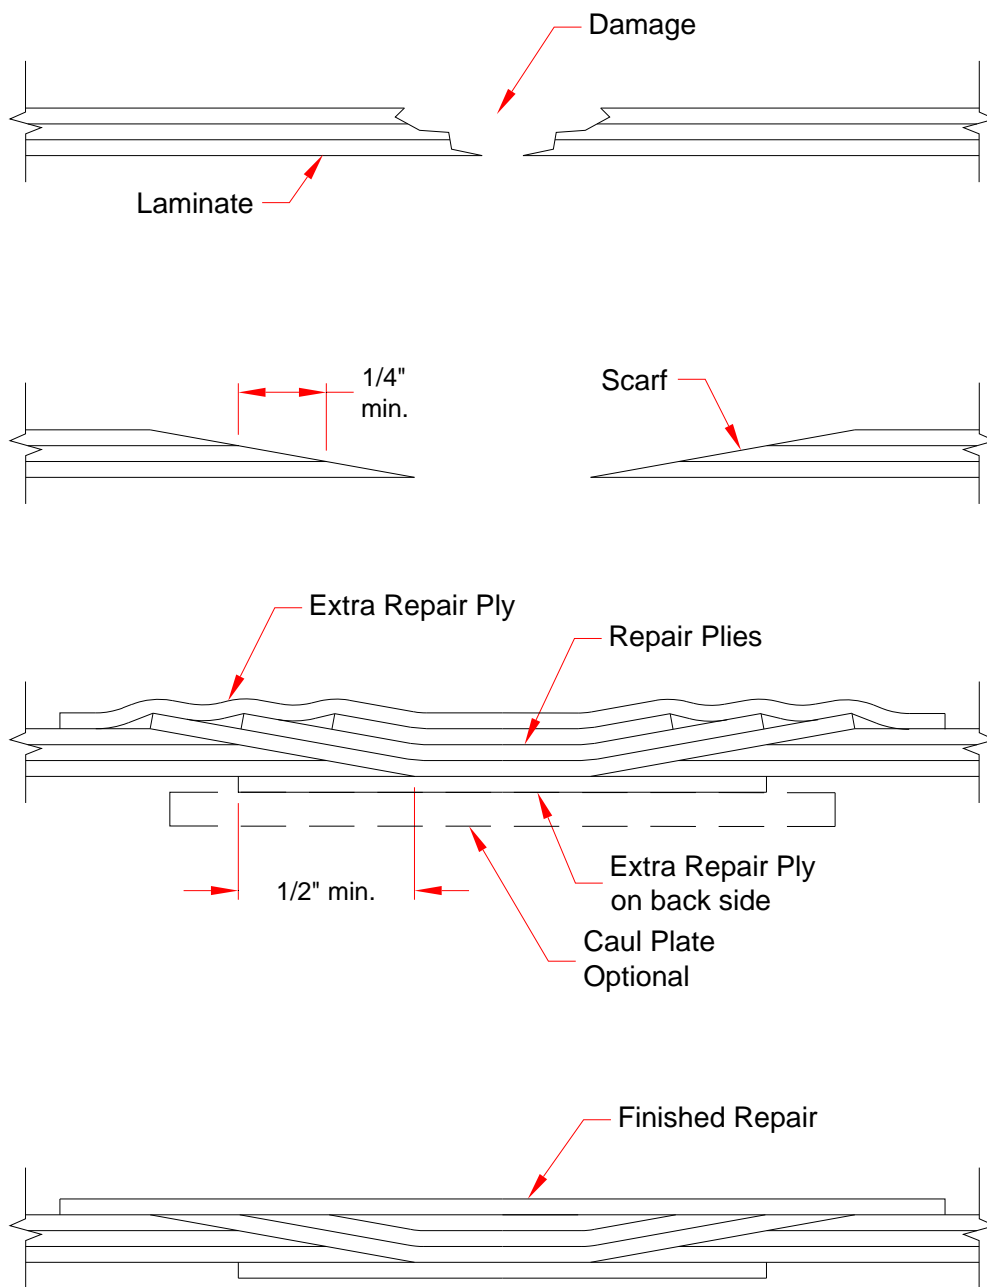
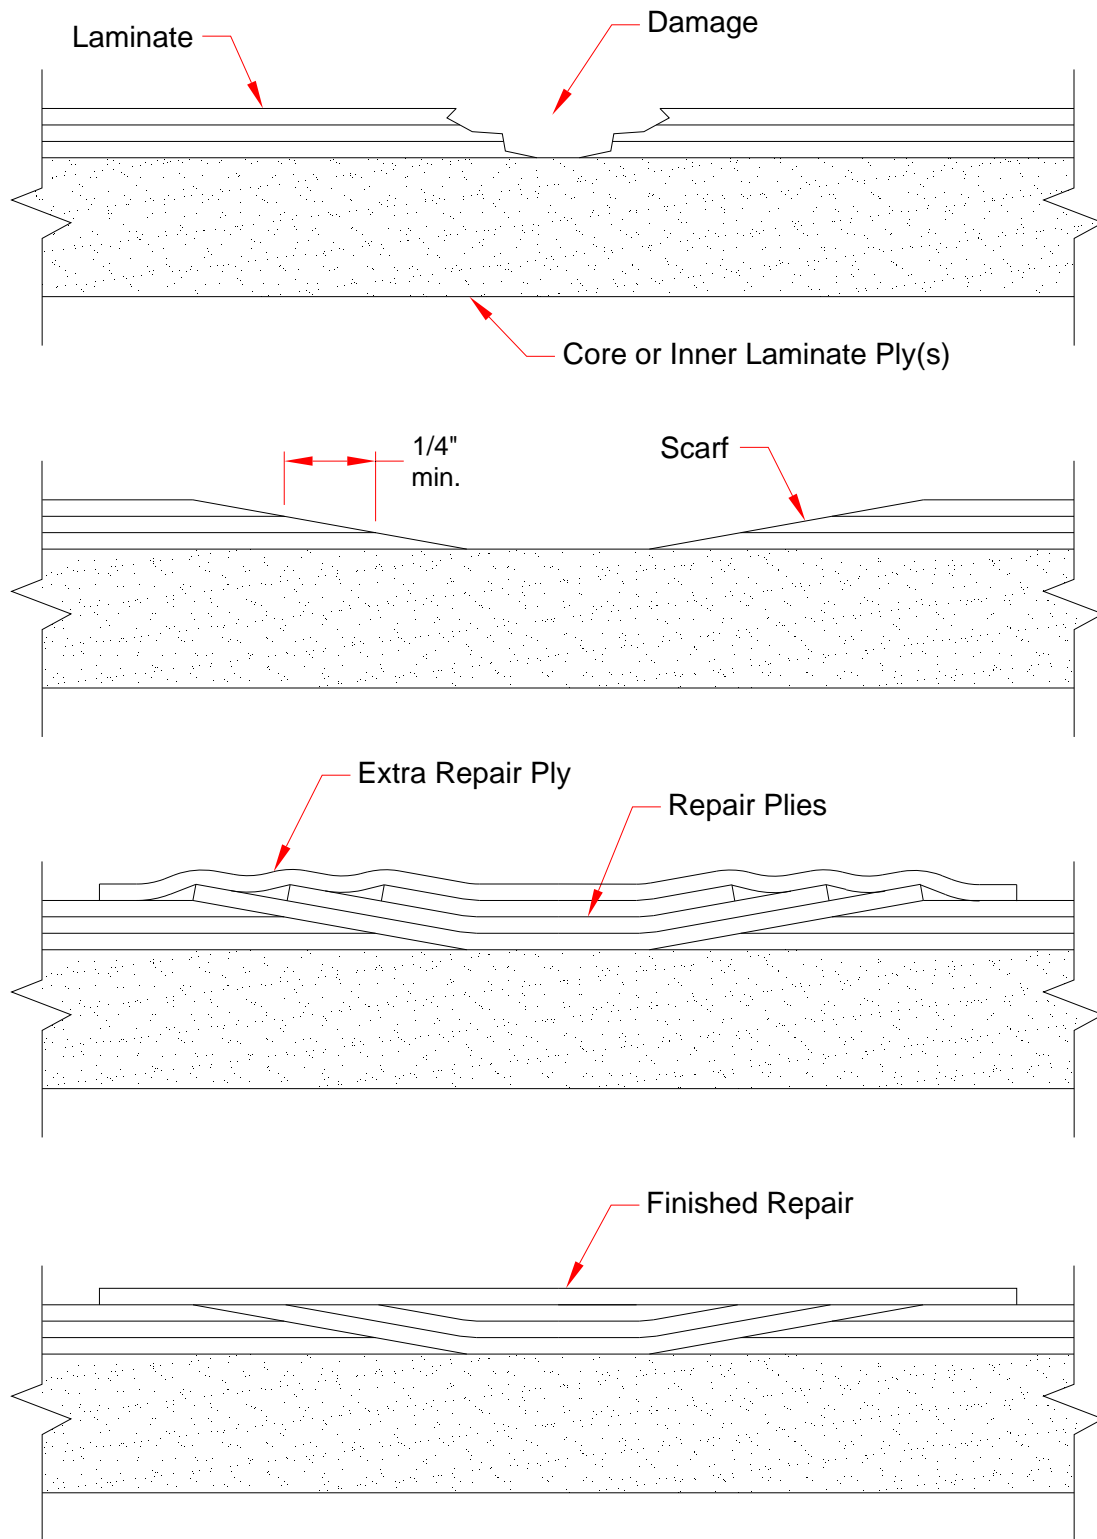

Figure 51-20-02 Laminate Repair – Penetration
Figure 51-20-03 Laminate Repair – No Penetration
- Step 3. Scarf the edges of the repair area with a grinding disk or block. Refer to Figure 51-20-02 or Figure 51-20-03 for scarf size.